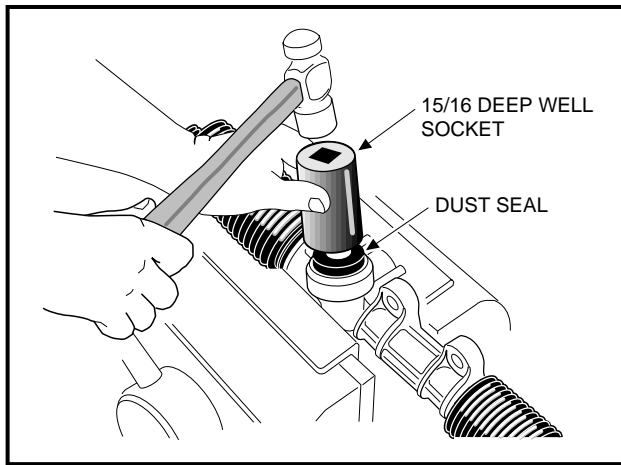

Figure 7-13 Press In Dust Seal
8. Using a socket to apply pressure evenly, press in a new dust seal (**Figure 7-13, Page 7-11**).